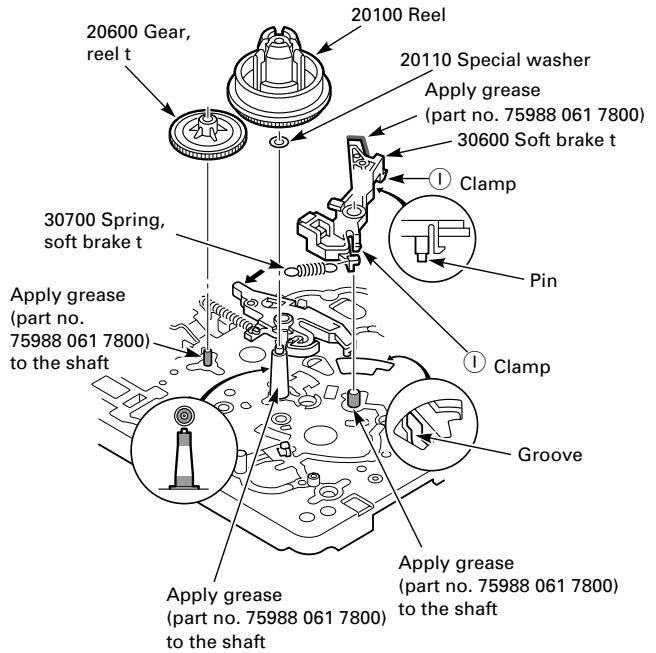
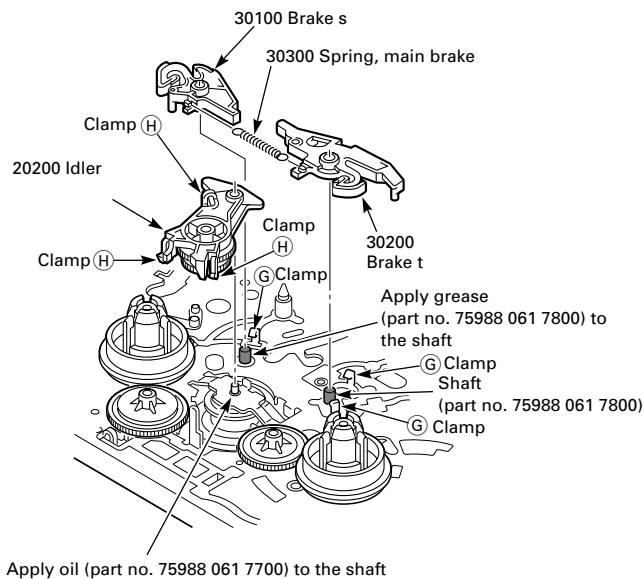
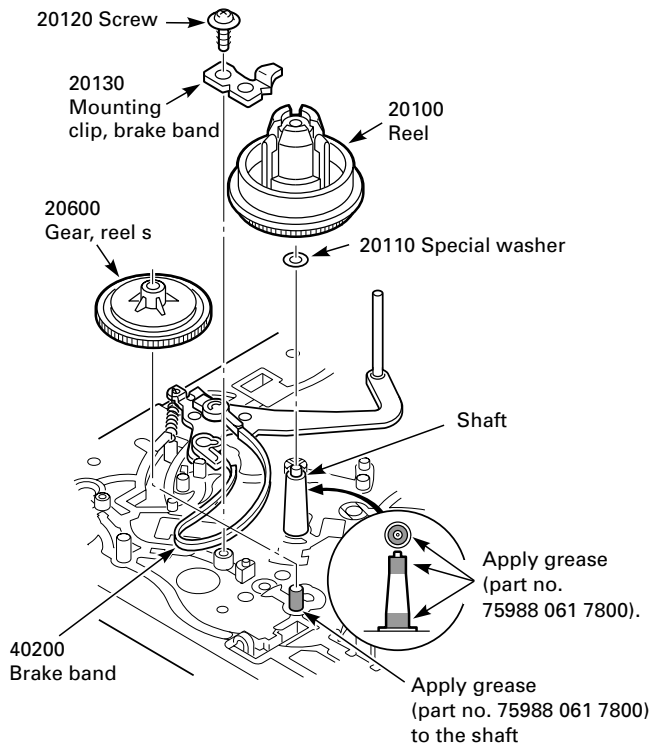

Fig. 8.19
Fig. 8.17
Fig. 8.20
- Unhook the spring of the main brakes (Pos. 30300), disengage the clamp ⑥ and remove the brakes (Pos. 30100 and 30200, Fig. 8.17).
- Disengage the clamp ④ and remove the idler (Pos. 20200, Fig. 8.17).
- Unhook the spring (Pos. 30700), disengage the clamp ① and remove the soft brake (Pos. 30600, Fig. 8.19).
- Follow the lubrication instructions given in Fig. 8.17 – Fig. 8.19!
- Remove the take-up reel (Pos. 20100, Fig. 8.19).
- Remove the supply reel (Pos. 20100, Fig. 8.20).
- Always use the grease with part number **75988 061 7800** for lubricating the reel shafts and follow the lubrication instructions given in Fig. 8.19 and Fig. 8.20!